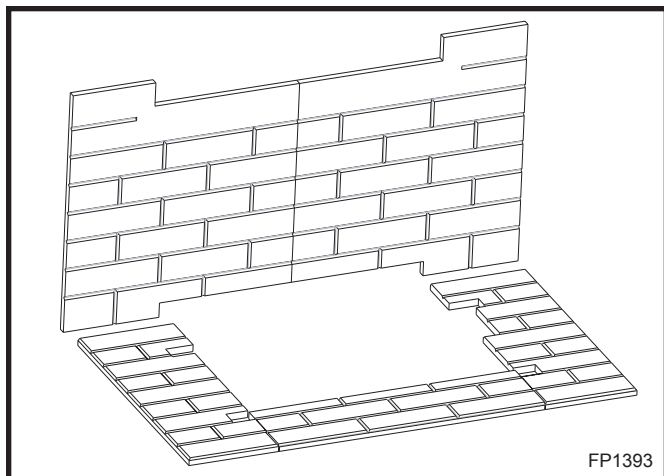

Fig. 38 DVRTSB ceramic panels.
2. Place the front floor refractory panels on the base of the fireplace. (Fig. 38)
3. Place both side panels in place along the side of the base. (Fig. 38)